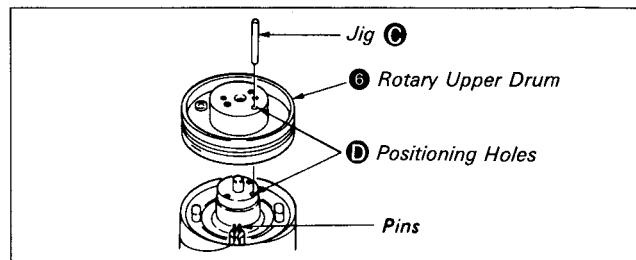

Fig. 7-47.
- 2) Insert Jig C in the positioning hole D so that the holes of the rotary upper drum ⑥ and flange coincide. Lightly insert the rotary upper drum in the drum shaft while aligning their positions. (See Fig. 7-47.) (Check that pins are projecting above the holes on the printed circuit board of the rotary upper drum. When the pins are caught, correct using tweezers, etc.)